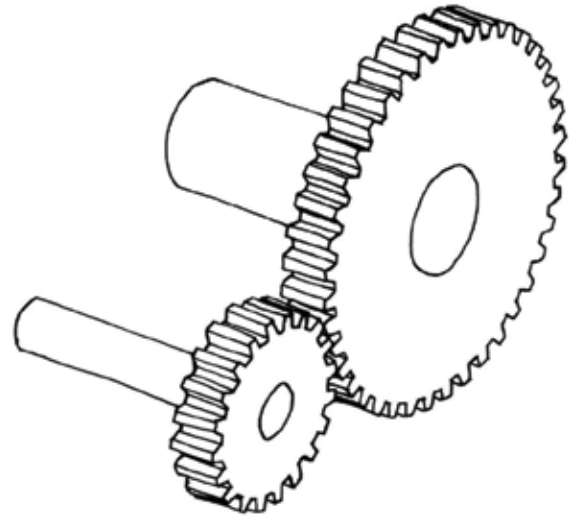

Figure 9
Suppose the small gear in Figure 9 drives the big gear. The small gear has 20 teeth and the big gear has 40 teeth.
2. If the small driver gear in Figure 9 makes 40 revolutions in one minute, how many revolutions will the driven gear make in the same time?
3. Look at the situation in Figure 9 again. If the driver gear with 20 teeth turns at 80 rpm, at what speed will the driven gear with 40 teeth turn?
4. If you want the driven gear in Figure 9 to turn at a speed of 120 rpm, how fast should the driver gear be turned?